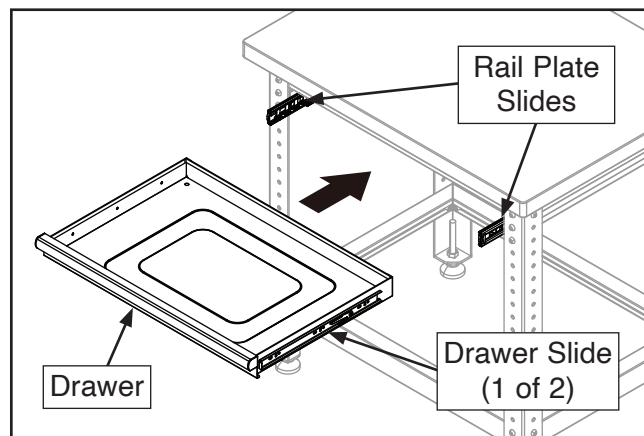

Figure 4. Location of drawer slides and rail plate slides.
3. Align drawer slides with rail plate slides, then push in until drawer clicks into place (see **Figure 4**).